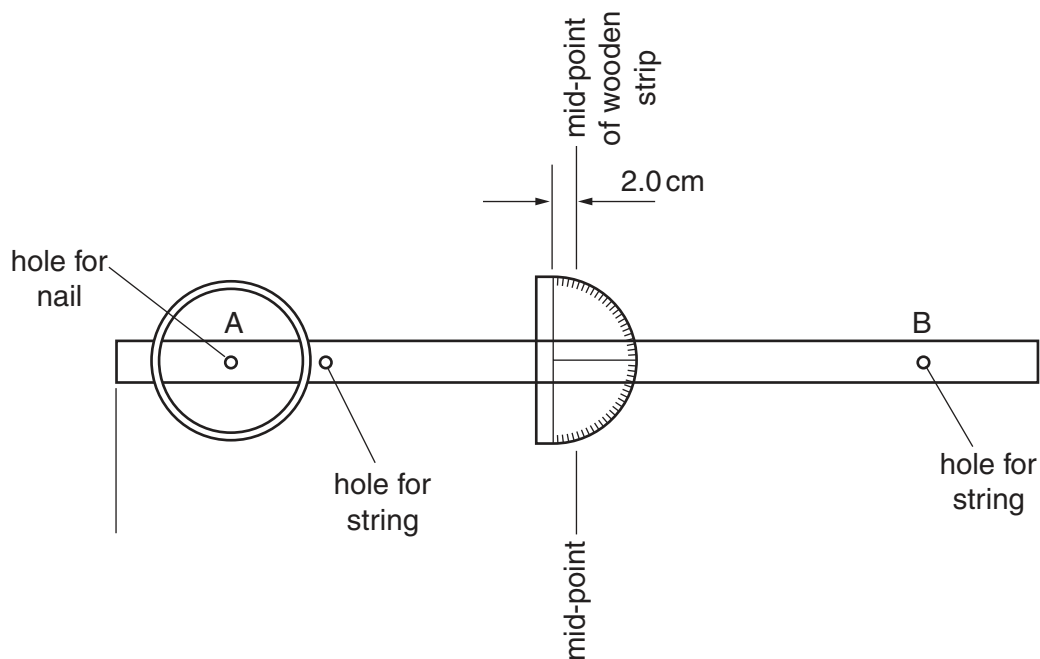

Fig. 1.2
- Referring to Fig. 1.2, mark position A on the wooden strip at the centre of the tube and drill a hole just large enough for the strip to pivot freely on the nail. It is important that the centre of this hole is within 1 mm of the axis of the tube.
- Again referring to Fig. 1.2, mark position B such that A and B are equidistant from their respective ends of the strip. Drill a hole at B just large enough for the string to pass through. Drill another hole, the same size as B, close to the tube, as shown.
- Again referring to Fig. 1.2, attach the protractor to the strip as shown, using Sellotape. The origin of the protractor should be 2 cm from the middle of the strip, towards the tube.